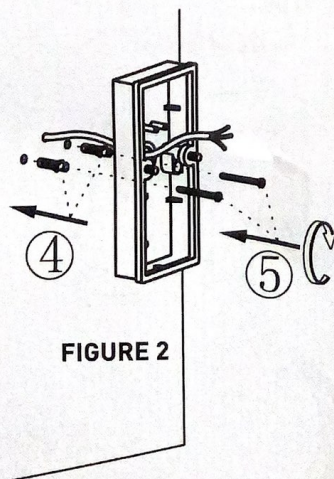

FIGURE 2
2. Use the back plate as a template and mark the positions for the two fixing holes and cable entry hole, if they do not exist already. If fixing to masonry, drill holes 25mm deep and insert masonry plugs so they are flush with the surface (**FIGURE 2**).
3. Ensuring the hex screw bolts protrude from the front, fix the back plate to the mounting service, using fixing screws provided (**FIGURE 2**).